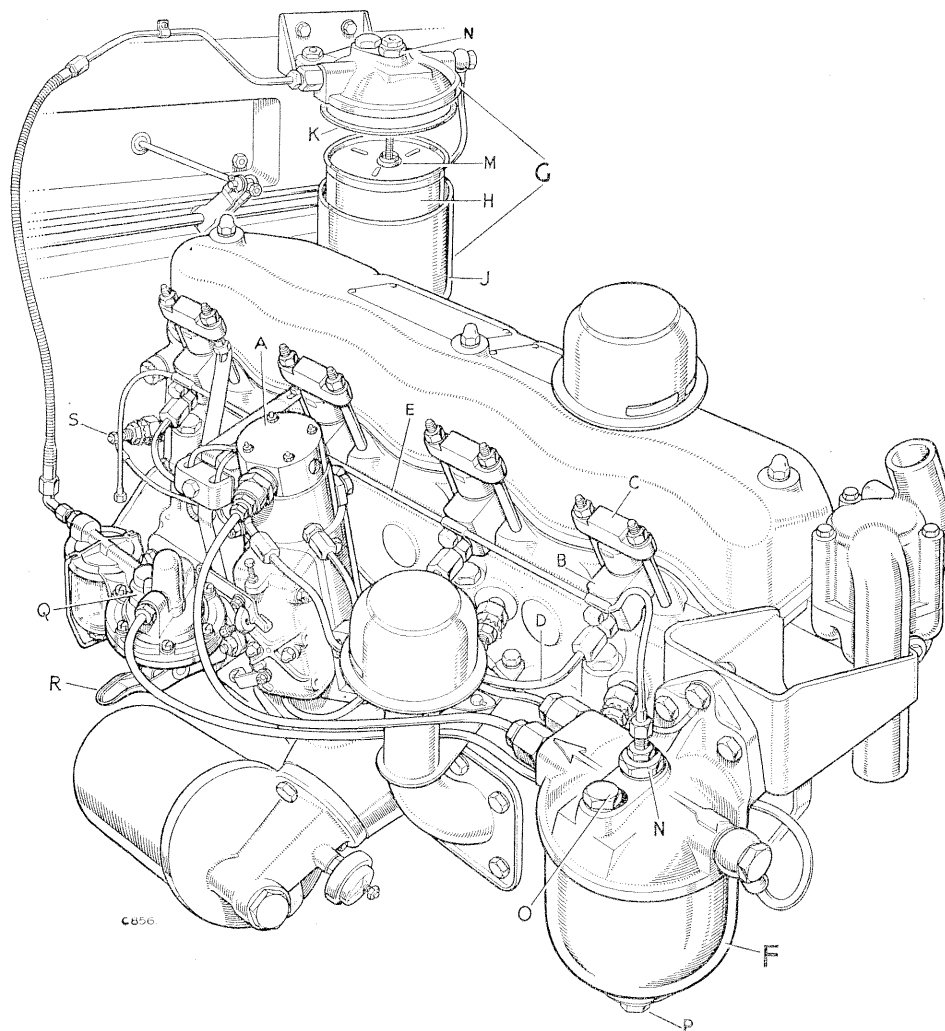

Fig. M-27—Layout of twin filters, early models
9. Operate the fuel pump hand priming lever until fuel free of air emerges. See hand lever, Fig. M-27.
11. To ensure that all air is exhausted from the pump it may also be necessary to slacken air vent screw 'B' in the distributor control cover and repeat items 9 and 10.